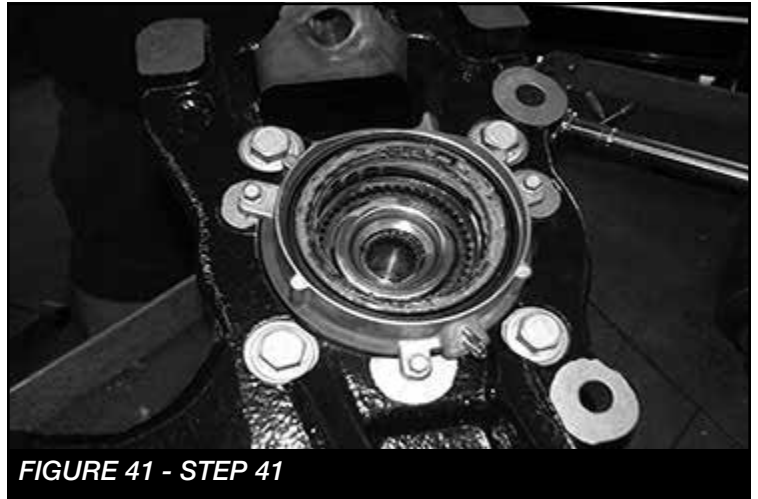

FIGURE 41 - STEP 41
41. Re-install the 4WD actuator using the 3 factory bolts. Torque to 29 ft-lbs. **SEE FIGURE 41**